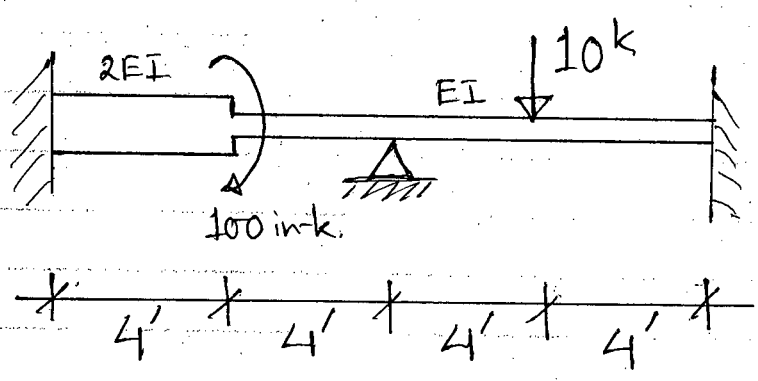

Fig. 13
(b) Identify the nodes and members of the beam in Fig. 13 to analyze it using Stiffness method for computer application. Derive stiffness matrix of each member and assemble them into global stiffness matrix. Derive member load matrix and global load matrix. Write down the stiffness equations in matrix form for the unsupported structure. Given:  $E = 3000 \text{ ksi}$ , and  $I = 1000 \text{ in}^4$ . (25)